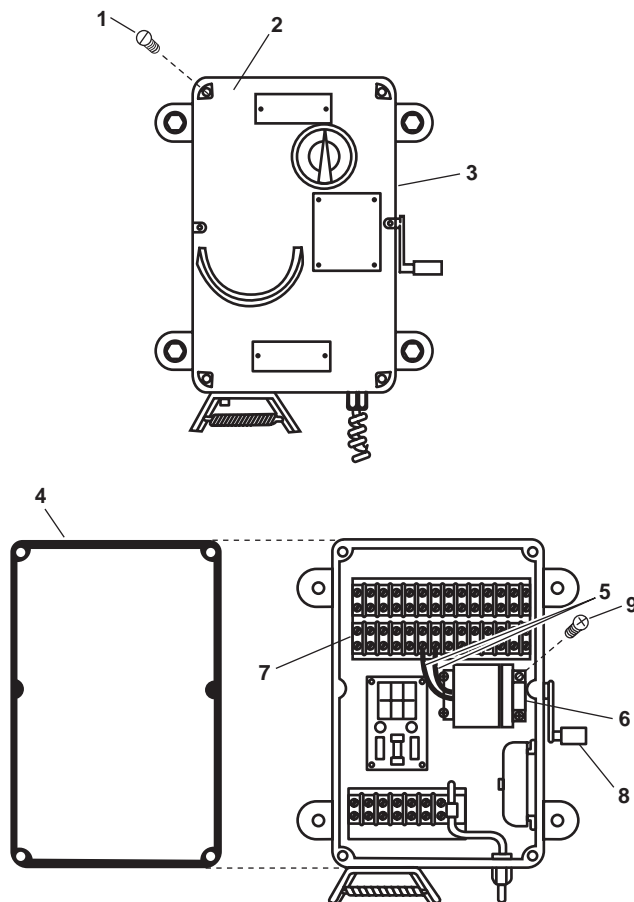

Figure 4. Sound Powered Telephone SW-243J
1. Remove the four screws (figure 4, item 1) of the SW-243J telephone cover (figure 4, item 2) from the SW-243J telephone junction box (figure 4, item 3).
2. Remove the SW-243J telephone cover (figure 4, item 2) from the SW-243J telephone junction box (figure 4, item 3).
3. Remove the gasket (figure 4, item 4) from the SW-243J telephone junction box (figure 4, item 3).
1. Install the gasket (figure 4, item 4) on the SW-243J telephone junction box (figure 4, item 3).
2. Install the SW-243J telephone cover (figure 4, item 2) on the SW-243J telephone junction box (figure 4, item 3).
3. Install the four screws (figure 4, item 1) of the SW-243J telephone cover (figure 4, item 2) in the SW-243J telephone junction box (figure 4, item 3).
3. Label and remove the wiring (figure 4, item 5) of the hand ringing generator (figure 4, item 6) from the terminal board (figure 4, item 7).
4. Remove the manual control handle (figure 4, item 8) from the hand ringing generator (figure 4, item 6) by turning it counterclockwise.
5. Remove the four screws (figure 4, item 9) from the hand ringing generator (figure 4, item 6).
6. Remove the hand ringing generator (figure 4, item 6) from the SW-243J telephone junction box (figure 4, item 3).
1. Install the hand ringing generator (figure 4, item 6) in the SW-243J telephone junction box (figure 4, item 3).
2. Install the four screws (figure 4, item 9) in the hand ringing generator (figure 4, item 6).
3. Install the manual control handle (figure 4, item 8) on the hand ringing generator (figure 4, item 6).
4. Connect the wiring (figure 4, item 5) of the hand ringing generator (figure 4, item 6) to the terminal board (figure 4, item 7).
5. Install the SW-243J telephone cover (figure 4, item 2) on the SW-243J telephone junction box (figure 4, item 3).
6. Install the four screws (figure 4, item 1) of the SW-243J telephone cover (figure 4, item 2) in the SW-243J telephone junction box (figure 4, item 3).
3. Remove the manual control handle (figure 4, item 8) from the hand ringing generator (figure 4, item 6) by turning it counterclockwise.
1. Install the manual control handle (figure 4, item 8) on the hand ringing generator (figure 4, item 6).